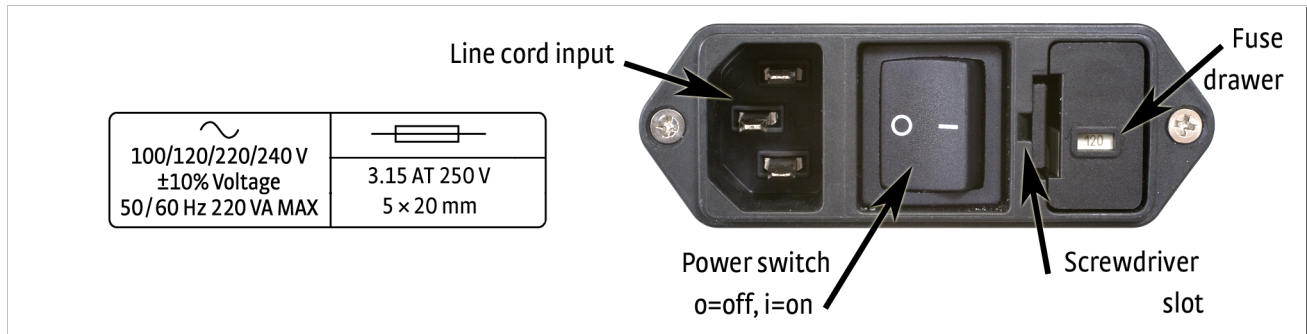

FIGURE 8-2 Power fuse access
1. Identify the line input assembly on the instrument rear panel. See FIGURE 8-2.
2. Turn the line power switch OFF (O).
10. Turn the line power switch On (I) Refer to FIGURE 8-2.
1. Locate the line input assembly on the instrument rear panel. See FIGURE 8-2.
2. Turn the power switch Off (O).